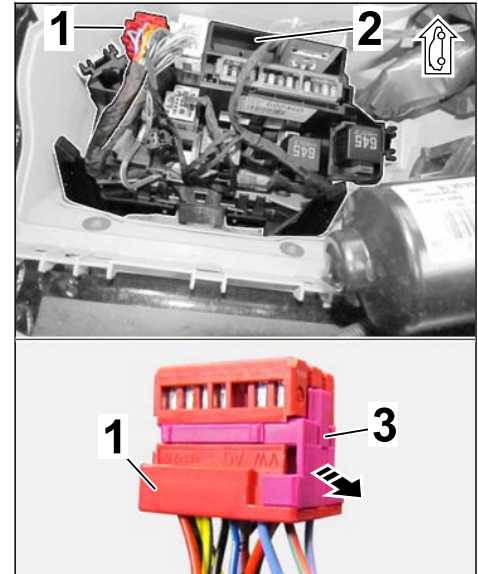

Figure 42
3.5.1 Remove and release connector (17-pin, red) from fuse/relay carrier (E-box, connection point X371.1A1) (⇒ Figure 42).